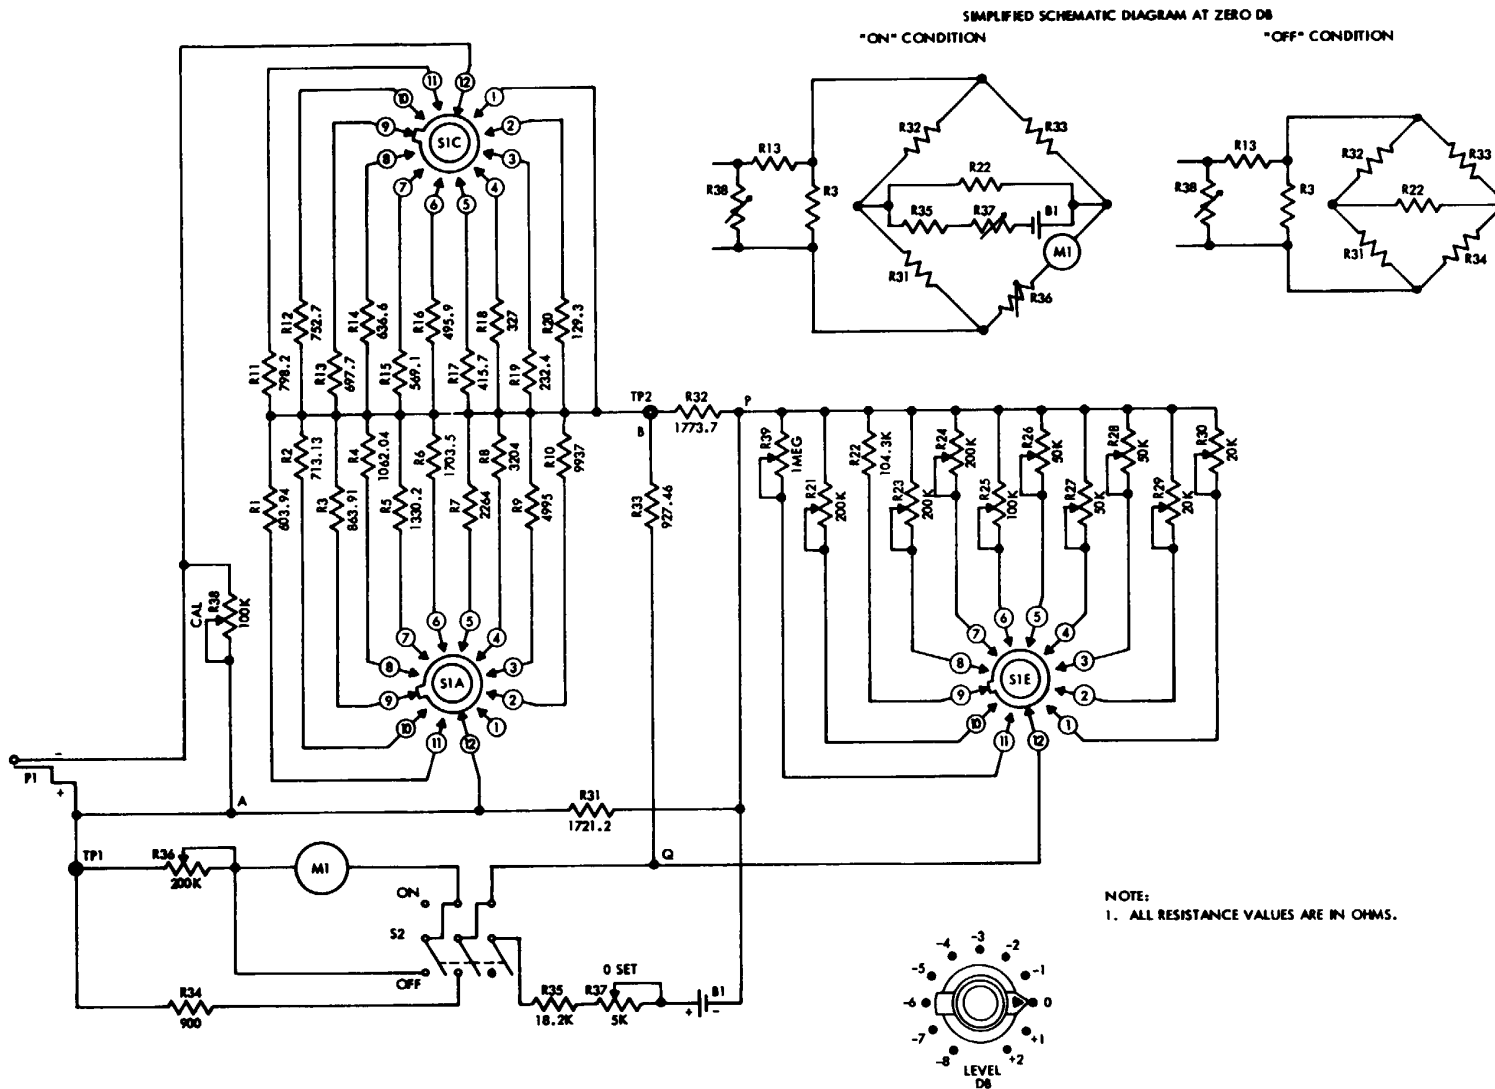

Figure B-2. Model 128-Model Expanded Scale Meter Schematic Diagram
(1) Set the 128-MA LEVEL control to -8 db. Remove internal battery from the 128-MA and connect Test Fixture (1.5V battery in series with 60K resistor) in its place, but with reverse polarity. Use the two clip leads.
(2) Switch the 128-MA to ON. This will bring the meter slowly to about full scale.
(3) Set the HP 413 to its most sensitive range in EXPANDED position. Short leads and zero meter.
(4) Connect the HP 413 to test points TP1 and TP2. See Figure B-2.